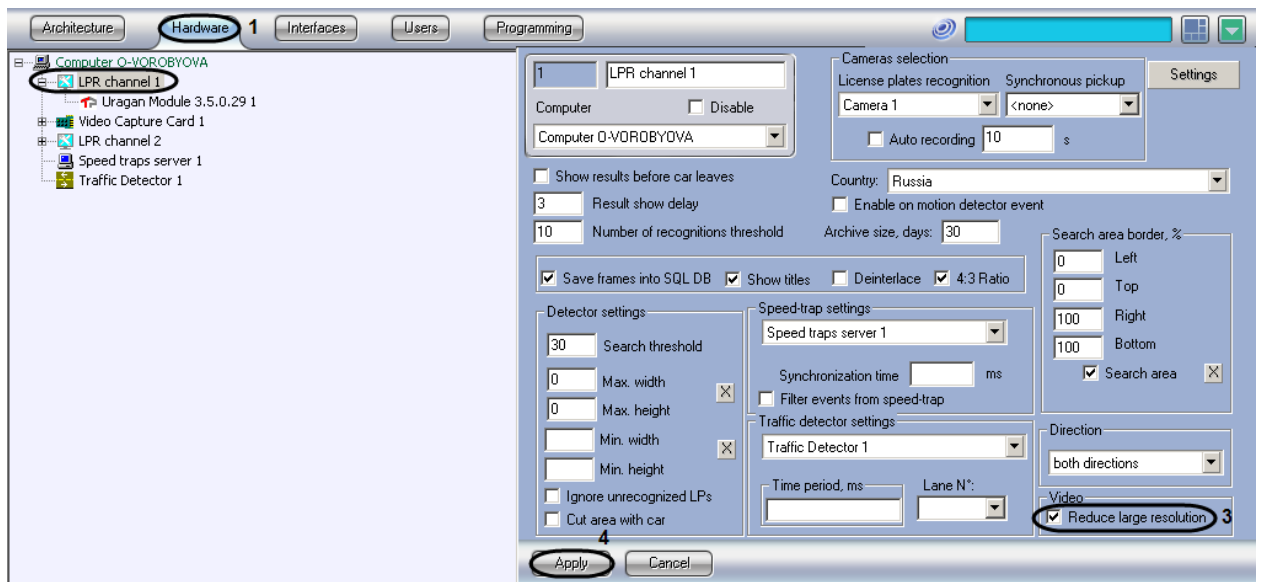

Fig. 7.2—29 Frame processing setup
1. In the System Settings dialog window, open the Hardware tab (Fig. 7.2—29, 1).
2. In the object tree of the Hardware tab, select the LPR channel, corresponding to the activated Auto-Uragan 3.5.0.29, CARMEN-parking, CARMEN-Auto, ACCR or VIT program module (see. «Program module activation, used for Plates identification», Fig. 7.2—29, 2). The settings panel of the selected object will open on the right side of the window.
3. Check or uncheck the «Reduce large resolution» checkbox (Fig. 7.2—29, 3).
4. Click «Apply» (Fig. 7.2—29, 4).